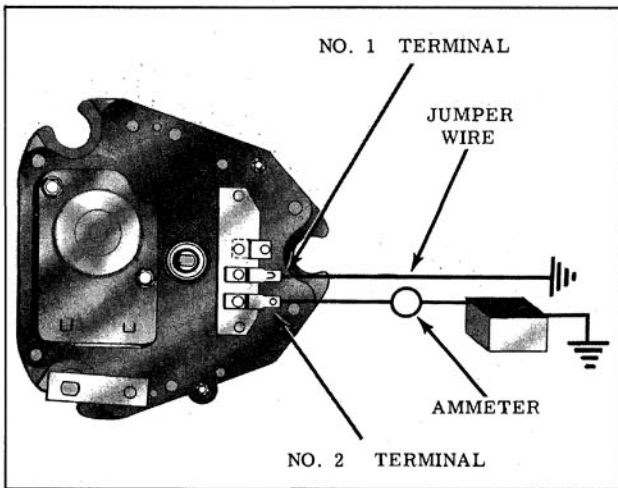

Fig. 13-131 Terminal Board Connections
2. If everything checks out in Step 1 and wiper fails to operate, disconnect wiring harness from wiper and check for 12 volts at harness terminal that connects to wiper terminal No. 2. (Fig. 13-131) No voltage indicates defective car wiring.
2. If wiper still operates in Step 1, disconnect wiring from wiper and connect 12 volt supply direct to wiper terminal No. 2. (Fig. 13-131) DO NOT connect any jumper wire to terminal No. 1.
Connect 12 Volt DC power source and ammeter to wiper as shown in Fig. 13-131 and observe current draw and wiper operation. For proper current draw see specification table.
Wiper crank arm stops rotating immediately when jumper wire is disconnected from wiper terminal No. 1. (Fig. 13-131) NOTE: When crank arm has reached park position, the crank arm index grooves will line up approximately with the ridges on the gear box cover. (Fig. 13-127)
Wiper crank arm fails to stop in park position when jumper wire is removed from wiper terminal No. 1. (Fig. 13-131)